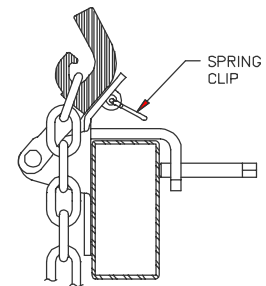

FIGURE 3
FOR SAFE AND PROPER OPERATION, LIFT UNIT MUST BE MOUNTED LEVEL AND WITH THE SPRING BAR CHAINS AGAINST THE TRAILER FRAME (SEE FIGURE 3).
1. Remove spring clip from back of unit [See figure 3].
7. Insert spring clip [See figure 3].